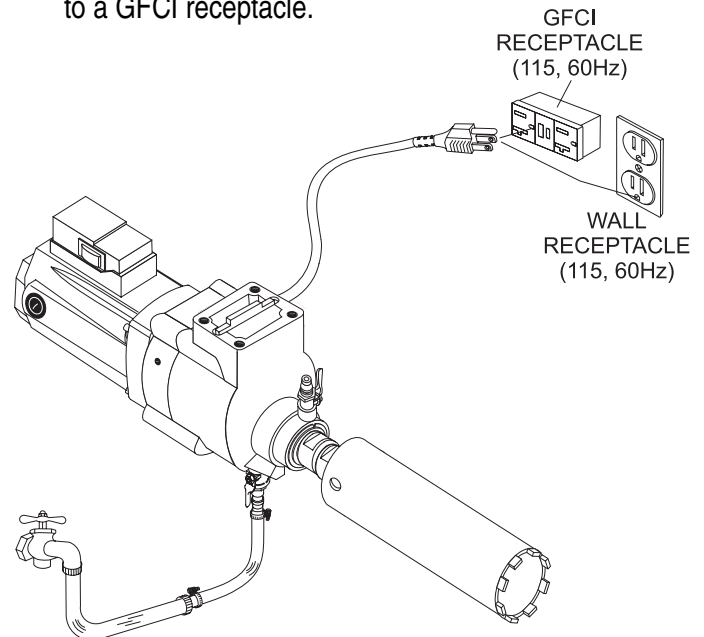

Figure 19. Connecting the Power
3. Connect the core drill's AC power cord to a 115 VAC wall receptacle (Figure 19) that is protected by a 20 amp circuit breaker. For best results connect the power cord to a GFCI receptacle.